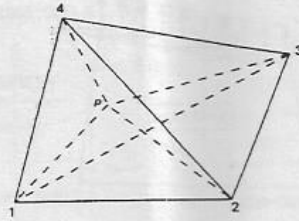

Fig. 16 (a)
16. (a) Determine the shape functions for a tetrahedron element shown in Fig. 16 (a). Further, explain the method of finding shape function for a hexahedral element. (15)